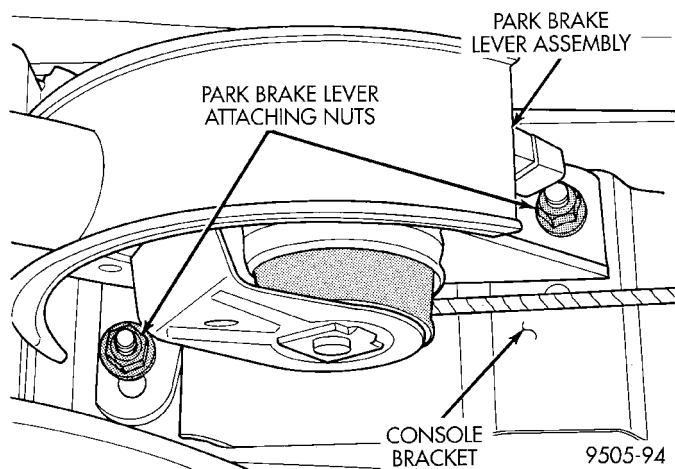

Fig. 11 Park Brake Lever Attachment To Console Bracket
(11) Remove the two nuts (Fig. 11) attaching park brake lever to console bracket. Remove park brake lever mechanism from vehicle.